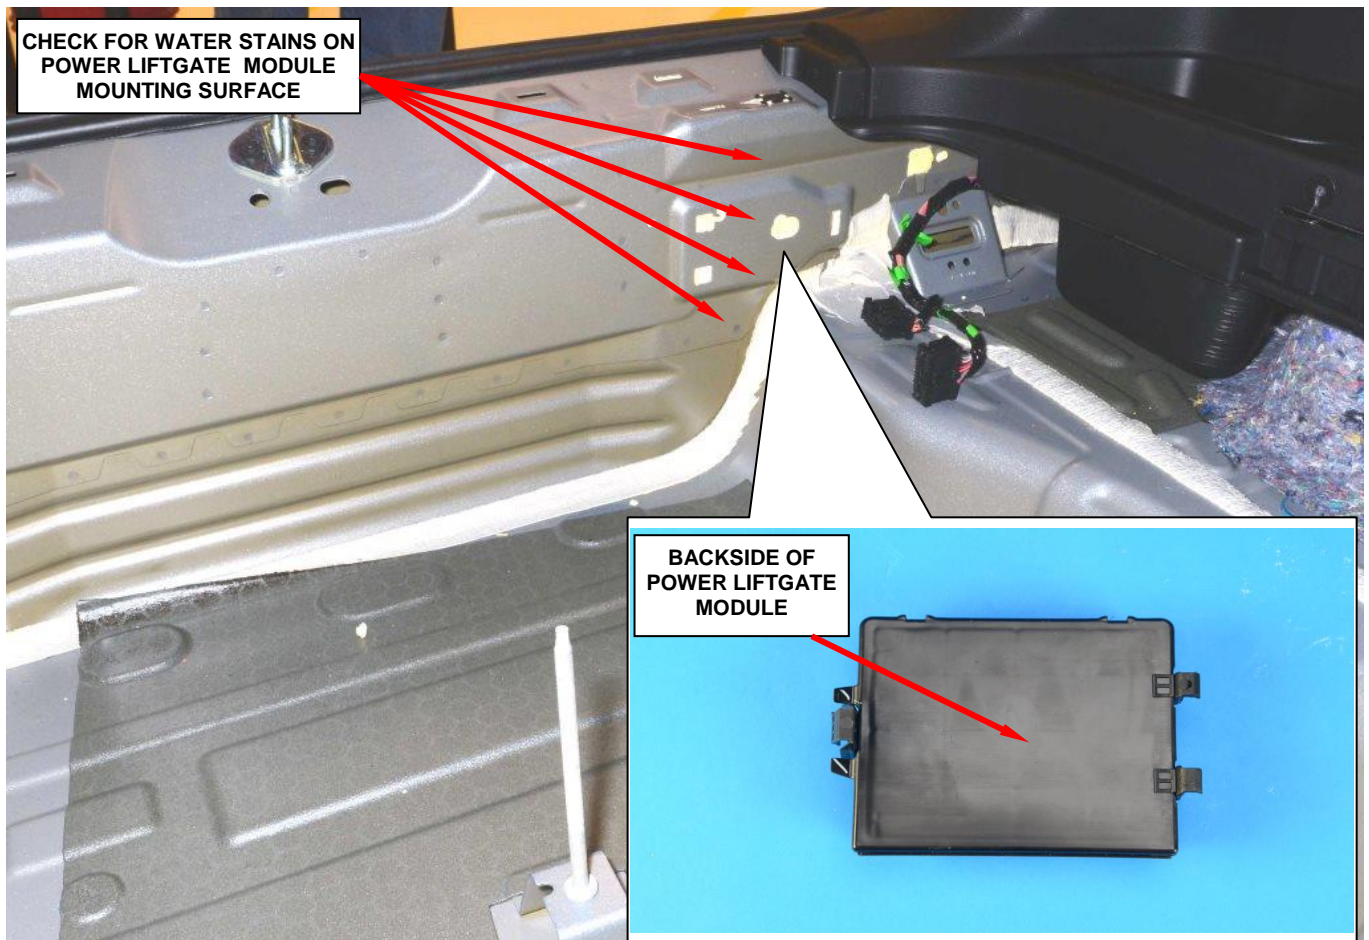

Figure 18 – Check for Water Stains on Backside of PLG Module and/or Mounting Surface
- If water stains are **not present** on the PLG module and/or mounting surface, continue with Step 3 of this procedure (Figure 18).
- If water stains are **present** on the PLG module and/or mounting surface, discard the original module. The PLG module must be replaced. Then continue with Step 3 of this procedure (Figure 18).